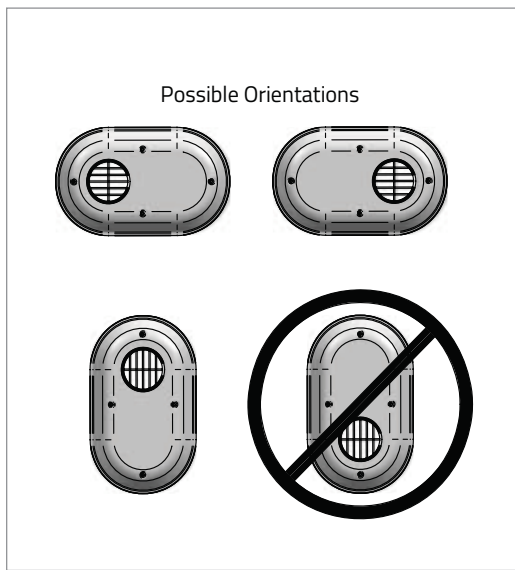

Figure 6: Typical Low Profile Termination
- (b) Maintain minimum clearance requirements as shown in Figure 6.